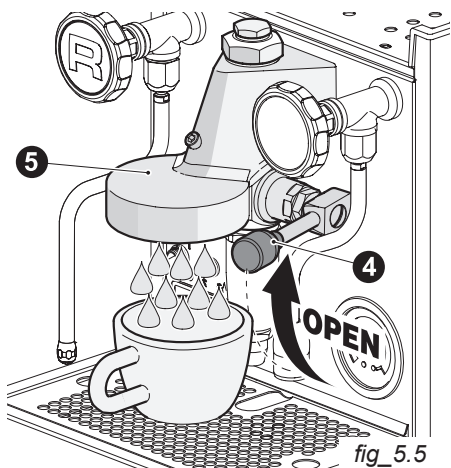

fig. 5.5
- Fully raise the coffee dispensing control lever (4 - fig. 5.5). Drain a cup of hot water from the infuser unit head (5).